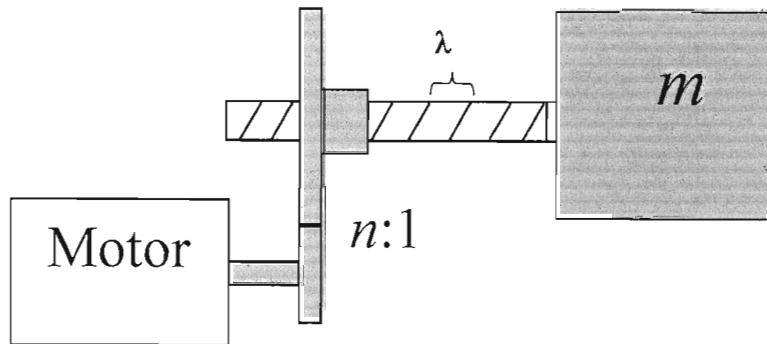

Figure 3.1 Schematic of electromechanical actuator.
3. a. An electromechanical actuator consisting of a servo motor, a nut and a screw with a pitch length $\lambda = 10$ mm, figure 3.1, is driving a load with a mass $m = 35000$ kg. The motor has a back-emf constant $k = 0.15$ V.s/rad, an armature resistance $R = 18$ m Ω , and a rotor inertia $J_m = 1.5 \times 10^{-3}$ kg.m². Furthermore, the gear ratio between the nut and the motor is 10:1. Assume the mechanical transmission to be lossless.